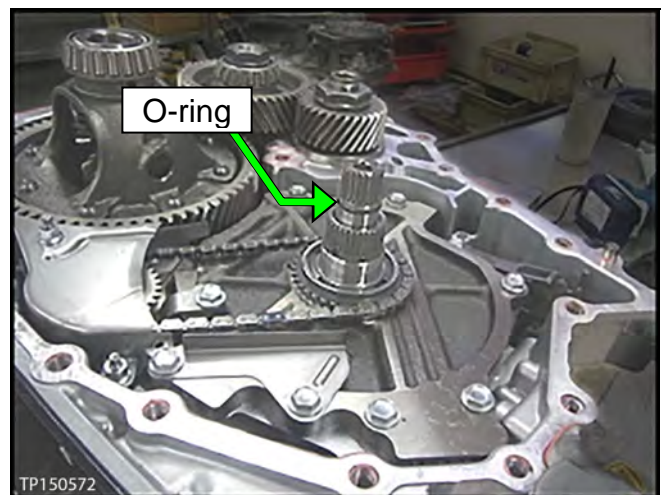

Figure 75
17. Install a new O-ring on the input shaft (see Figure 75).